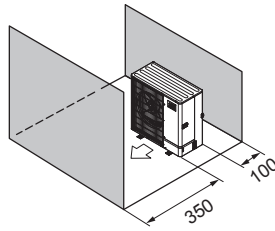

Fig. 1-26
- ⑤ Obstacles at front and rear only (Fig. 1-26)